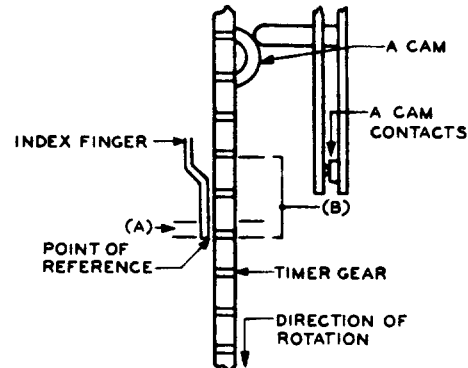

Fig. 17 - "A" Cam Position
2.27 "A" Cam Position: With the timer electrically operated and the end play of the timer gear taken up toward the mounting bracket, the "A" cam contacts shall close before the timer gear has rotated minimum 1/3 a tooth before the front "C" cam contacts make [Fig. 17(A)], maximum two teeth before the front "C" cam contacts reopen [Fig. 17(B)]. Gauge by eye.